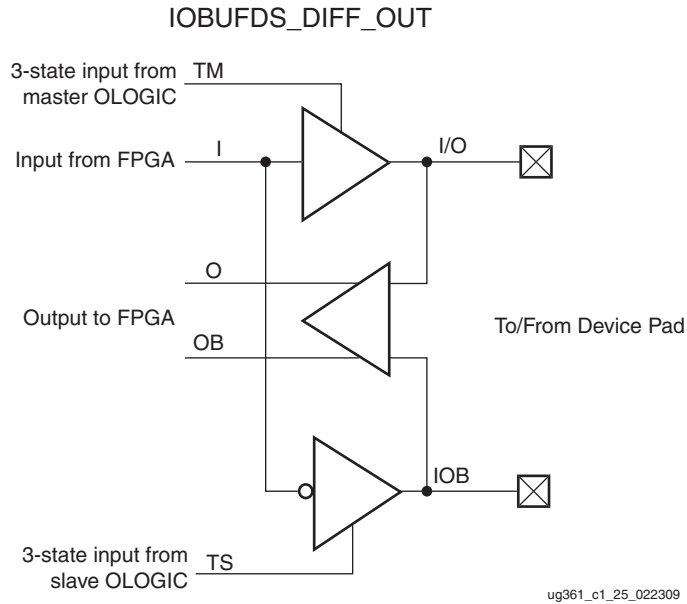

Figure 1-25: Differential Input/Output Buffer Primitive (IOBUFDS_DIFF_OUT)
Figure 1-25 shows the differential input/output buffer primitive with a complimentary output (OB). This primitive is only recommended for use by experienced Xilinx designers with DDR2 and DDR3 applications.